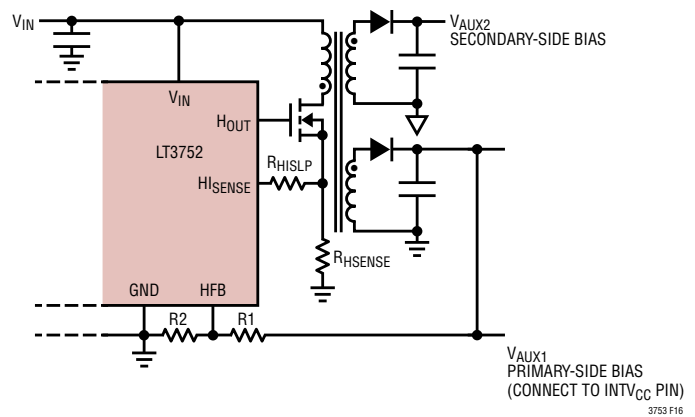

Figure 16. LT3752 Forward Controller with Additional Integrated Housekeeping Controller for Primary-Side and Secondary-Side Bias
The best method for generating an auxiliary supply, that is available even for $V_{OUT} = 0V$, is to have a housekeeping controller integrated into the primary-side IC (Figure 16). This gives the highest efficiency, most cost effective
- (1) Use a primary-side forward controller with integrated housekeeping controller to generate a secondary-side bias (Figure 16).